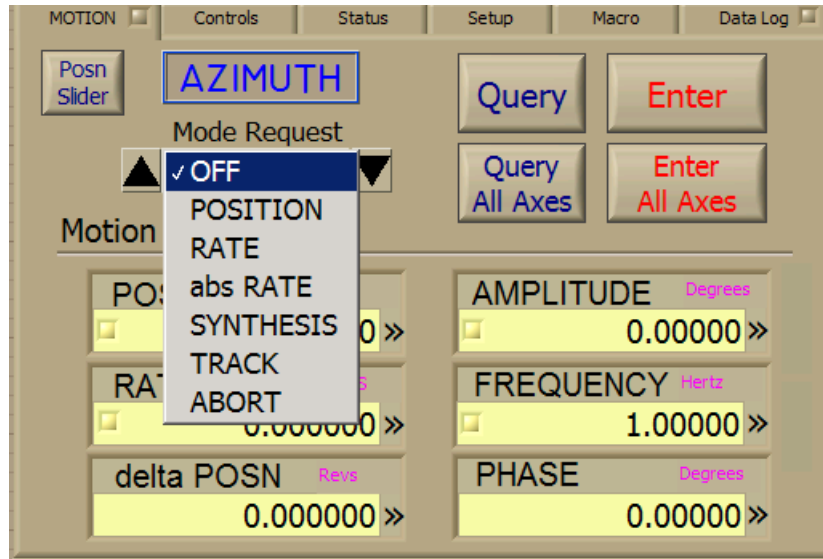

Figure 4-12 MODE Control
- Select the desired mode with the list box as shown in Figure 4-12.